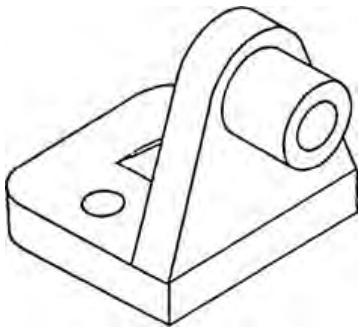

Fig. 1.39: Pictorial view
4. Look at Fig.1.39. It shows a pictorial drawing. These drawings are frequently used to show how an object should appear after it is manufactured. Pictorial drawings are used for simple objects.